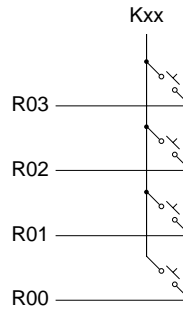

Fig. 5.4.3
**(3) Scanning for key input by ports R00–R03**
**Specifications** The key matrix is shown in Figure 5.4.3. This is the scanning subroutine, "KYSC", to specify the key that has been made high input.